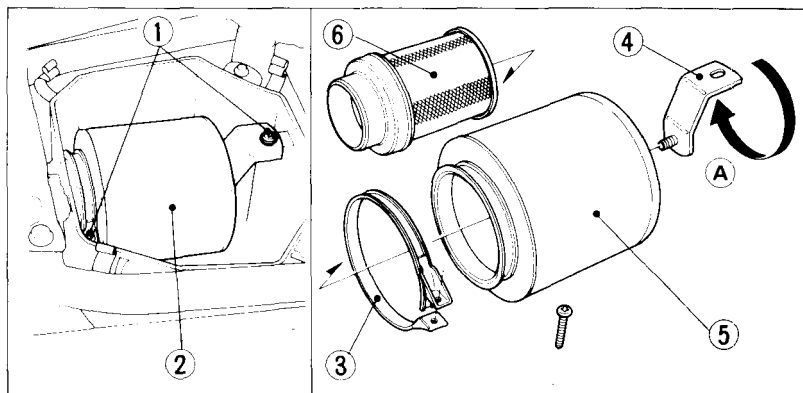

Fig. 4-6
3. Remove the screws (Fig. 4-6) and remove the air cleaner assembly (2) from the case.
4. Unscrew the clamp (3) and remove the mounting bracket (4).
5. Remove the filter (5) from the air cleaner body (6).